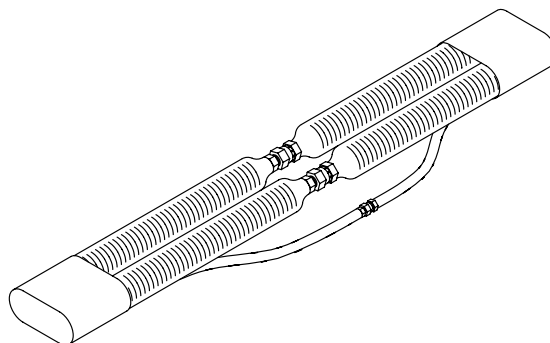

FIG. 15: Hose Connection (steps b and c)
- b. Connect heated hoses to isolation hoses and tighten. To ensure a leak-proof chemical connection, do not cross-thread or over-tighten fittings. See FIG. 15.
- c. Connect air hoses and tighten fittings. See FIG. 15.